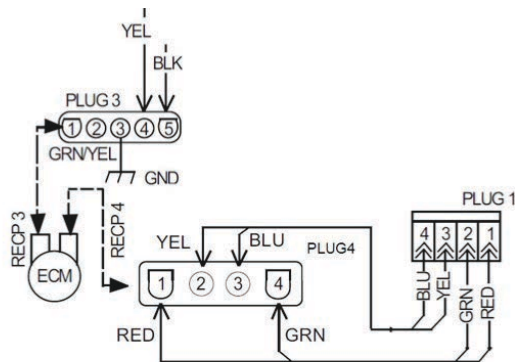

Fig. 15 – ECM / Plug Wiring Diagram
3. Disconnect Plug 1 from the board (Fig. 15).
1. If Fault Code 44 and the Motor LED are both flashing, place a DC voltmeter across terminals PL1-1 Red (+) to PL1-2 Green (-) (Fig. 15).